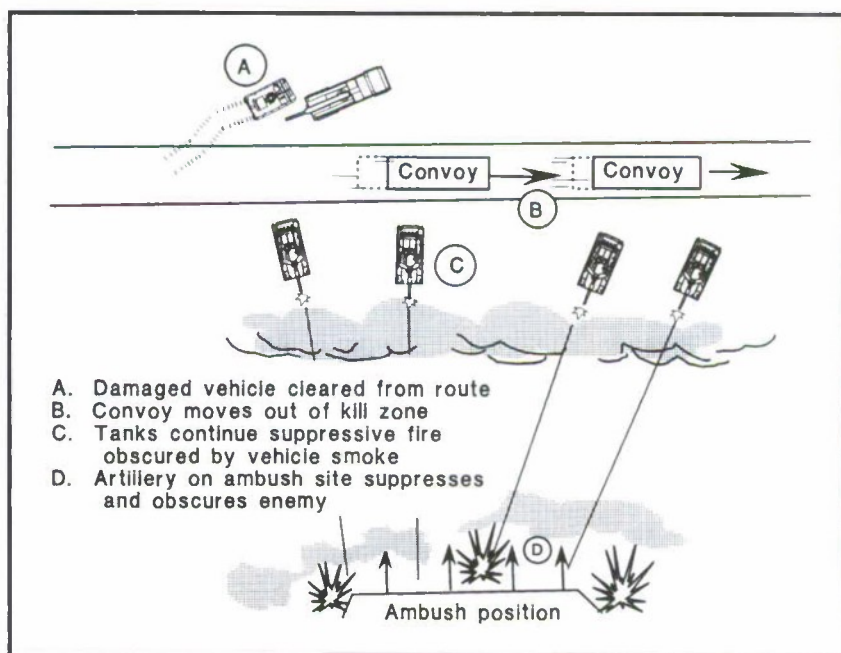

Figure 5-8B. Convoy continues to move.
- The platoon leader or the convoy commander may request that any damaged or disabled vehicles be abandoned and pushed off the route (Figure 5-8B).